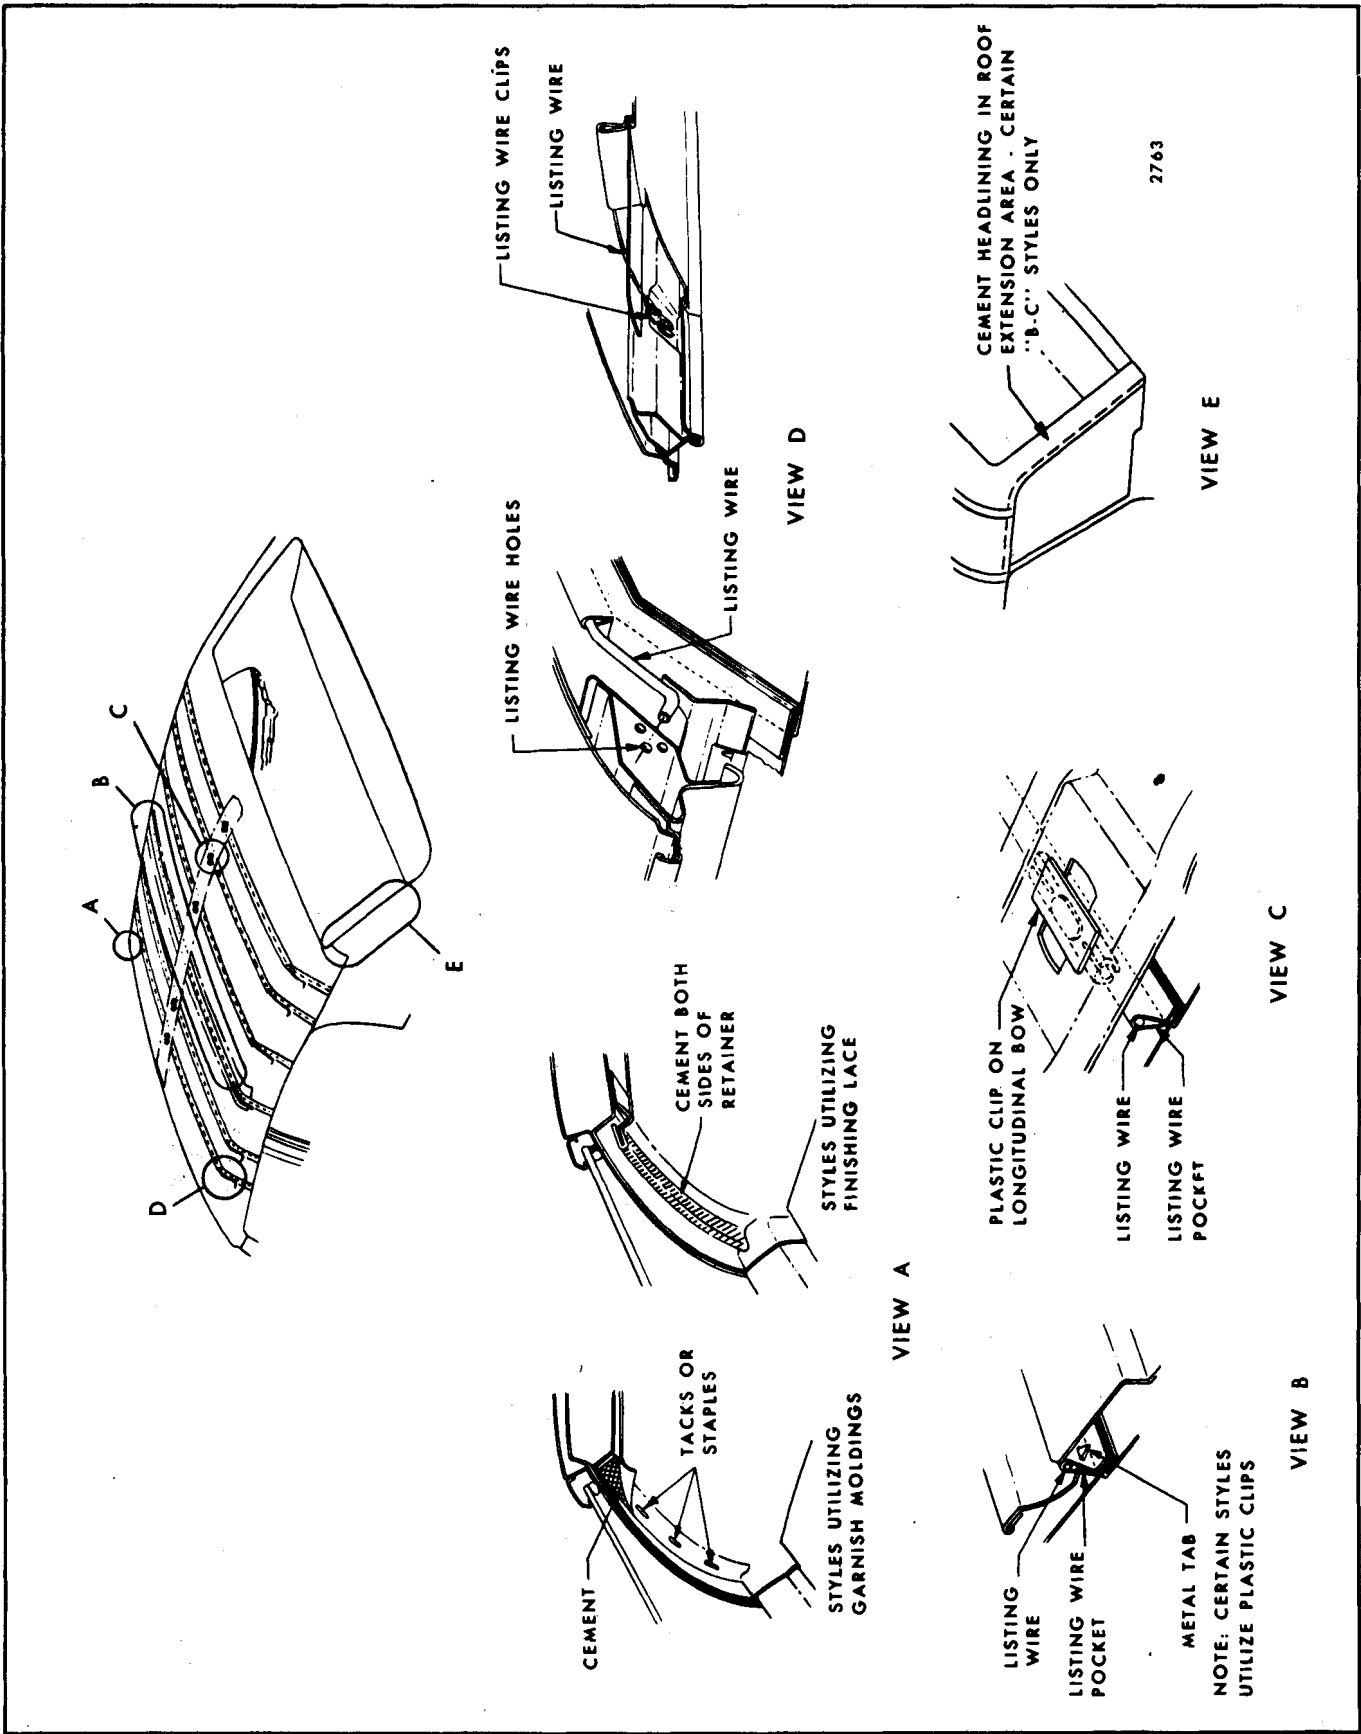

Fig. 10-1-Typical Cloth or Vinyl Headlining Installation - "A and X" Body Styles
On certain styles, the listing wires are further attached to the roof panel by snap-in type clips which are secured to the longitudinal roof bow (Fig. 10-1, View "C").
Where garnish moldings are utilized the headlining is tacked or stapled in addition to being cemented at the windshield and back window or back body openings (See Fig. 10-1, View "A").
6. On "A, X and D" Styles - starting at front of body, carefully disengage No. 1 and No. 2 listing wires from side roof inner rails and from plastic supporting clips on roof bows on styles so equipped (See Fig. 10-1, View "C"). In like manner, working from rear of body, disengage listing wires from side roof rails and supporting clips on longitudinal bow. Exercise care to keep headlining material clean by gathering or folding headlining with listing wires on outside.
2. Apply an approved non-staining trim cement to headlining surface at windshield, side roof rail and back window or back body opening. On styles that utilize finishing lace be certain cement is applied to both sides of retainers (See Fig. 10-1, View "A").
- A. Lift headlining assembly into body and install No. 3 listing wire and listing wire pocket over metal tabs at roof bow and bend up tabs to secure wire to bow. On styles that incorporate plastic clips in place of metal tab, snap No. 3 listing wire into clips (See Fig. 10-1, View "B" and "C").
- B. Working rearward from No. 3 listing wire, install listing wires in side roof rails and snap listing wires into plastic clips on roof bows. In like manner, working forward, install remaining listing wires (See Fig. 10-1, View "C").
NOTE: Listing wires may be adjusted up or down by utilizing appropriate holes in side roof rails. Listing wires should rest tight against roof panel after installation (See Fig. 10-1, View "D").